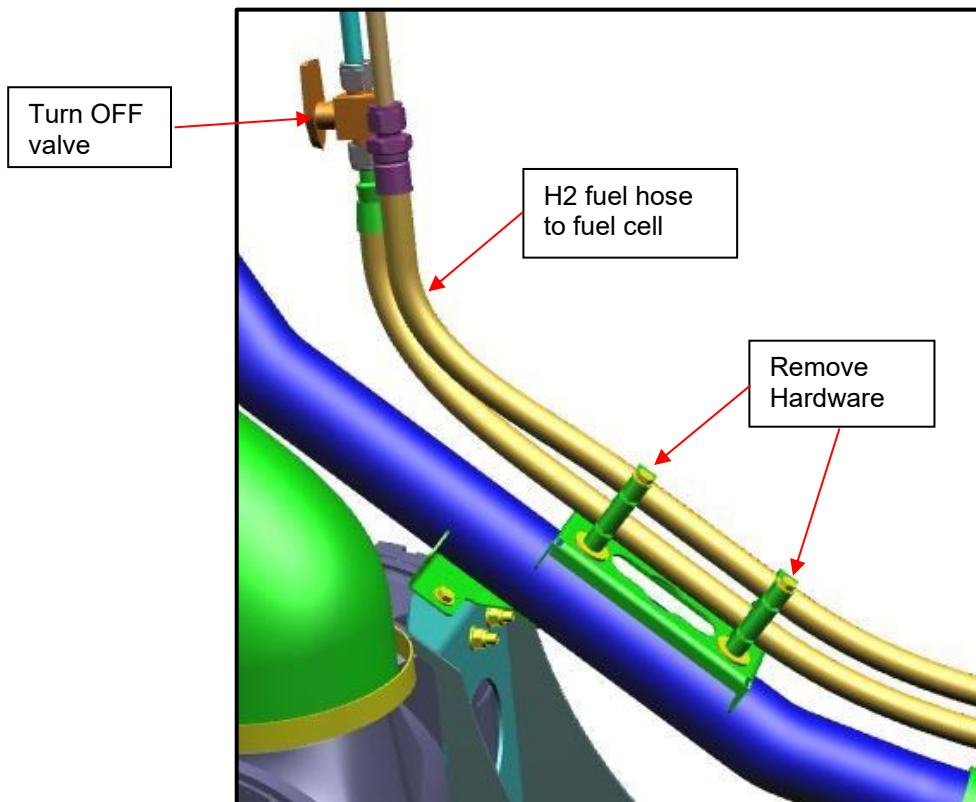

Figure 5: H2 fuel hose location reference
11. Turn off H2 fuel valve and remove hardware from H2 fuel hose support bracket as shown below and set aside for reinstallation. See figure 5.